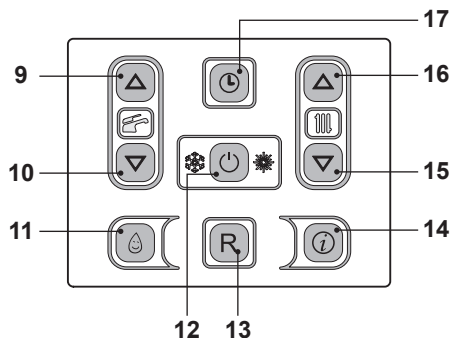
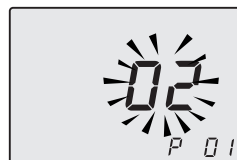

Fig. 7.27
Fig. 7.28
- Enter in "programming mode" by pressing keys 12 - 15 - 16 (Fig. 7.27) for 10 seconds at the same time until the letters **P01** are displayed on the LCD display, indicating that "parameter 01" (Fig. 7.28) has been activated.
- By pressing key 12 (Fig. 7.27) confirmation of the inserted value is obtained.
- Press keys 15 or 16 (Fig. 7.27) to exit without changing the value.